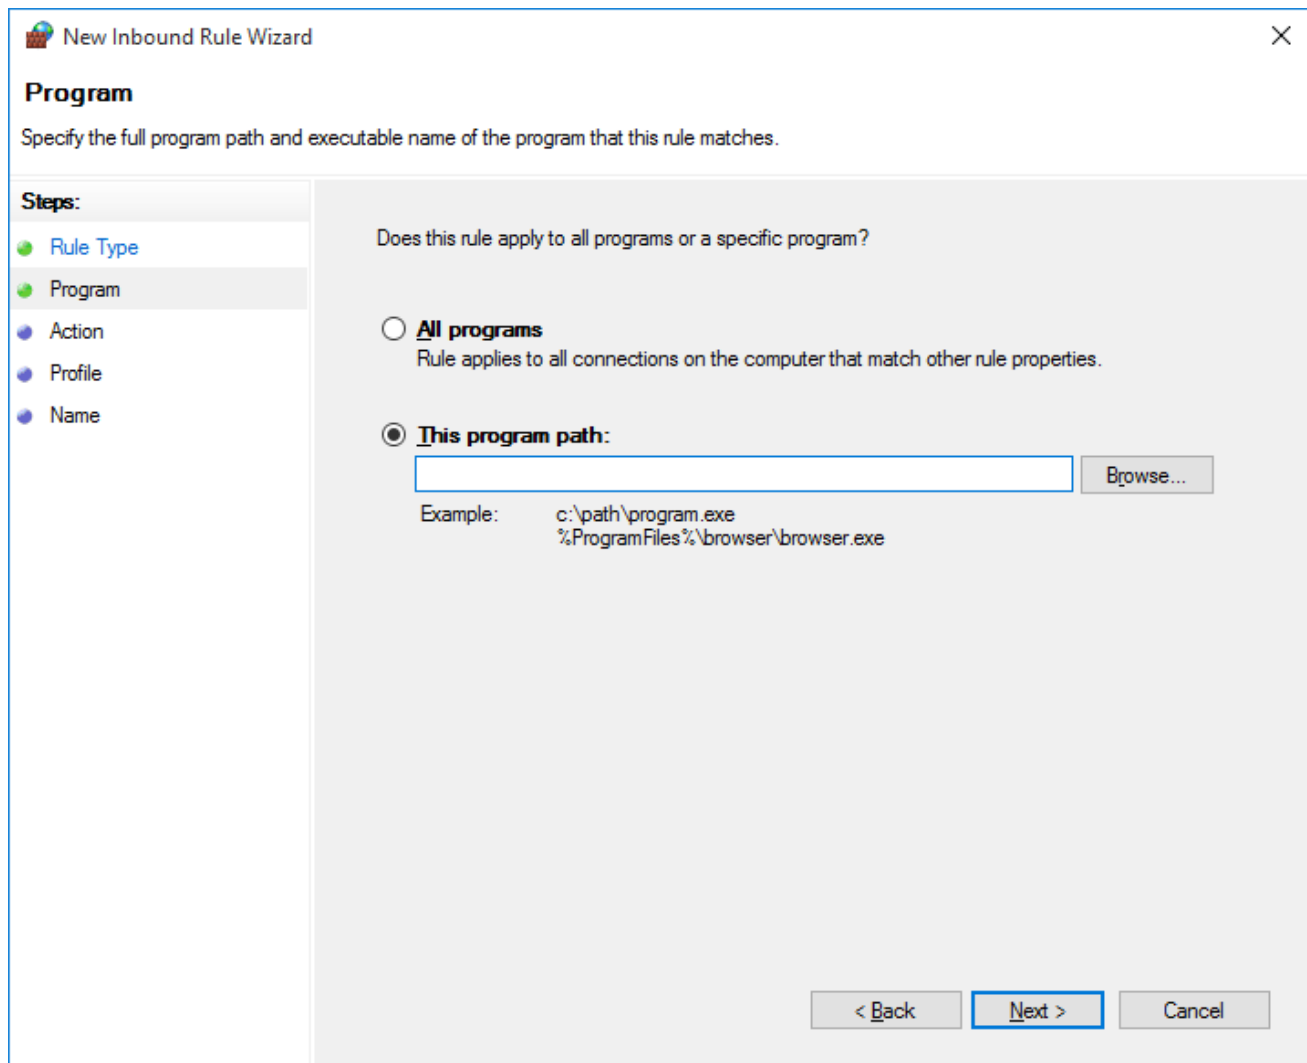

Figure 2-67. New Inbound Rule Wizard – Program page
6. On the Program page (see *Figure 2-67*), you can add Object Server to the list of authorized communicators through the Windows Firewall. Click the **Browse** button next to the **This Program Path** field to locate the Bristol OPC Server (**BristolOPCServer.exe**).